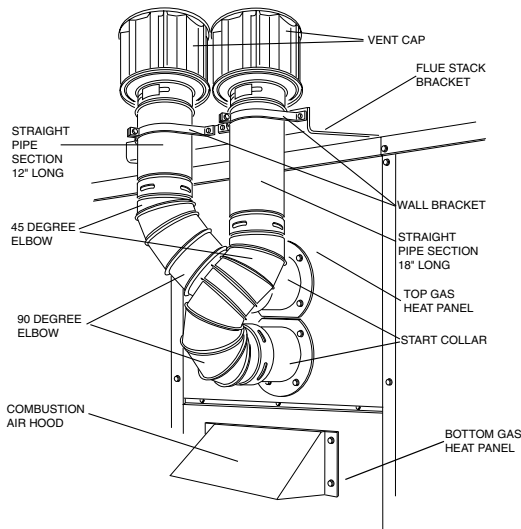

FIGURE 10 : FLUE EXHAUST KIT INSTALLED
8. Attach the 45 degree elbow, (Item 5), onto the 90 elbow, with the outlet facing up. See Figure 10.
11. Attach the 45 degree elbow, (Item 5), onto the 90 elbow, with the outlet facing up. See Figure 10.